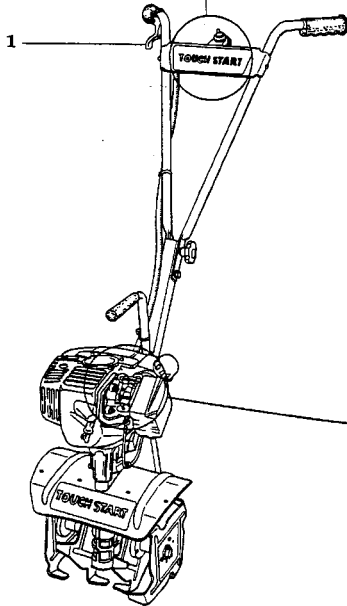

FIG. 11
NOTE. Fig. 11 shows the location of the operating controls of your Excel E-Z Tiger. For your safety, we strongly recommend that you become familiar with their functions before using the machine.
- a. (FIG. 11) Throttle lever (1) controls the engine speed and tine rotation. Your E-Z Tiger is equipped with a centrifugal clutch that engages the tine drive system when the engine speed is increased. When the throttle lever is released, the engine speed slows down, and the tines will automatically stop.
(FIG. 11 B) Depress the priming bulb (4) several times until the fuel flows through the bulb into the carburetor. Depress the fuel injection button (5) **ONCE**, which transfers the fuel from the carburetor to the combustion chamber. Turn the stop switch (2) to the "on position" and press the "start button" (3).
(FIG. 11) When the engine is warmed up, it is not necessary to depress the priming bulb and fuel injection button. Doing this would cause the engine to flood and make starting difficult. The correct procedure is to simply rotate the stop switch (2) to the "on position" and press the "start button" (3).
(FIG. 11 & 11A) Decrease the engine speed by releasing the throttle lever (1), then turn the stop switch (2) to the "OFF" position.